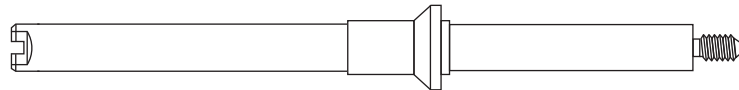

Figure 10 Mounting post (G4513-20561)
- 7 Install the injector mounting post (G4513-20561, Figure 10) to the GC inlet cover's threaded connection. If the wrong post is used (for example the 7683B ALS mounting post) the injector will not work. The mounting post supplied in this kit only supports the G4513A Injector.